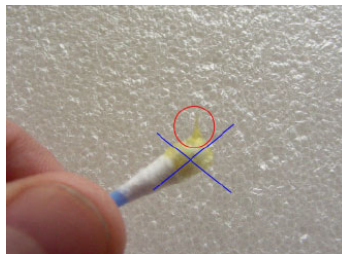
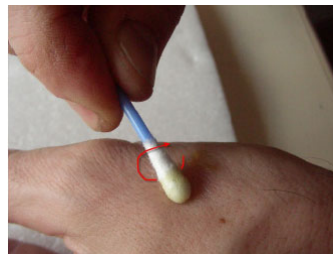
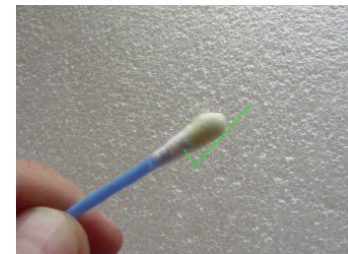

Figure 2
Figure 3
Figure 4
- Apply a small amount of O-lube to a Q-tip. (Figures 2-4). Avoid applying too much O-lube on the Q-tip (as in Figure 2) by distributing excess lube on the back of your hand (Figure 3). Figure 4 depicts the proper amount of lube.